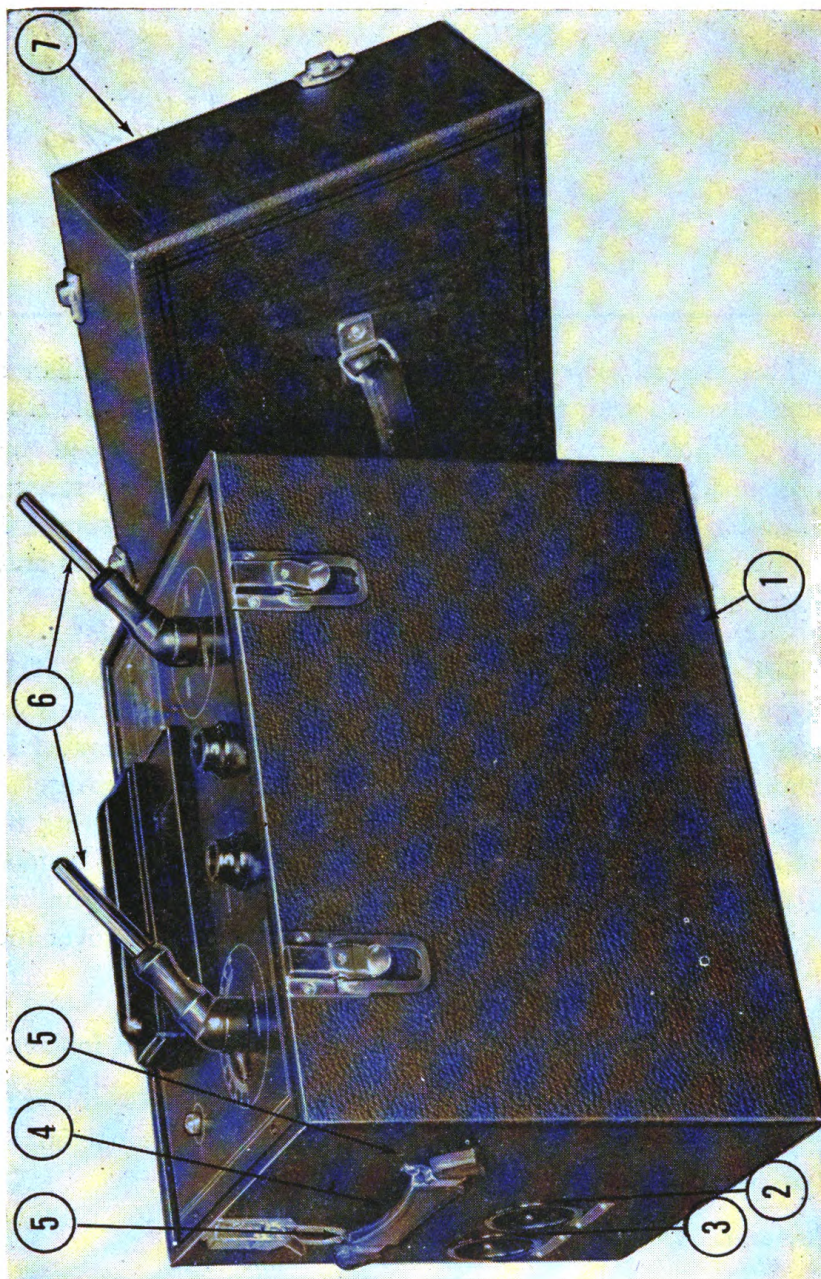
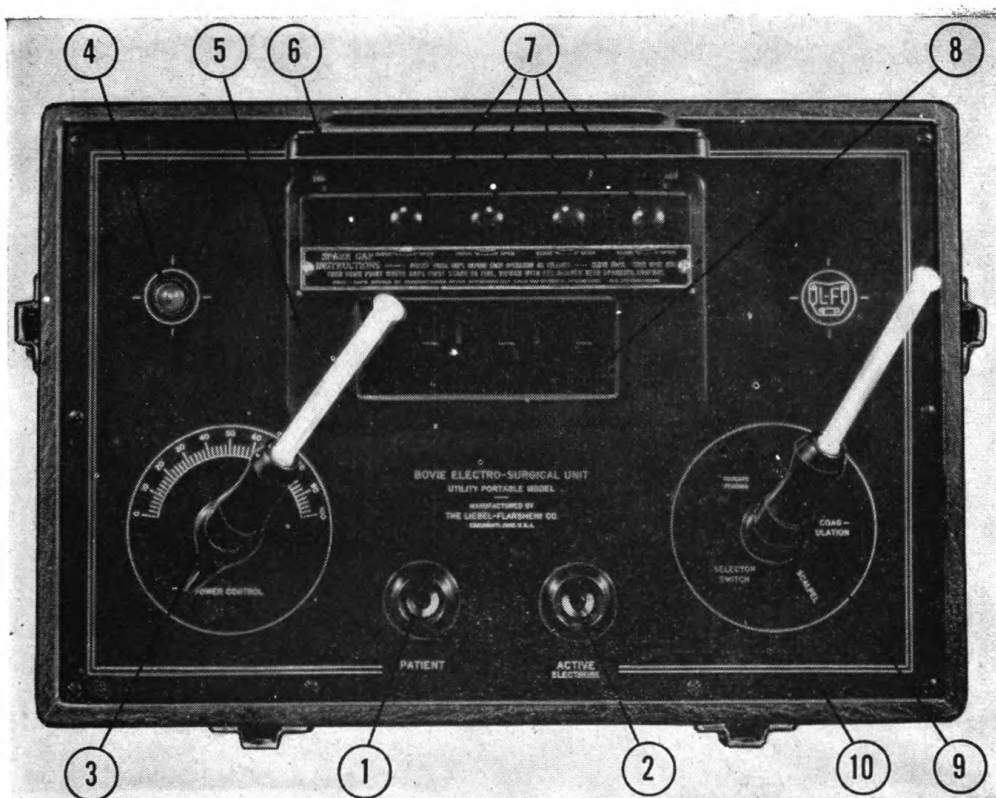
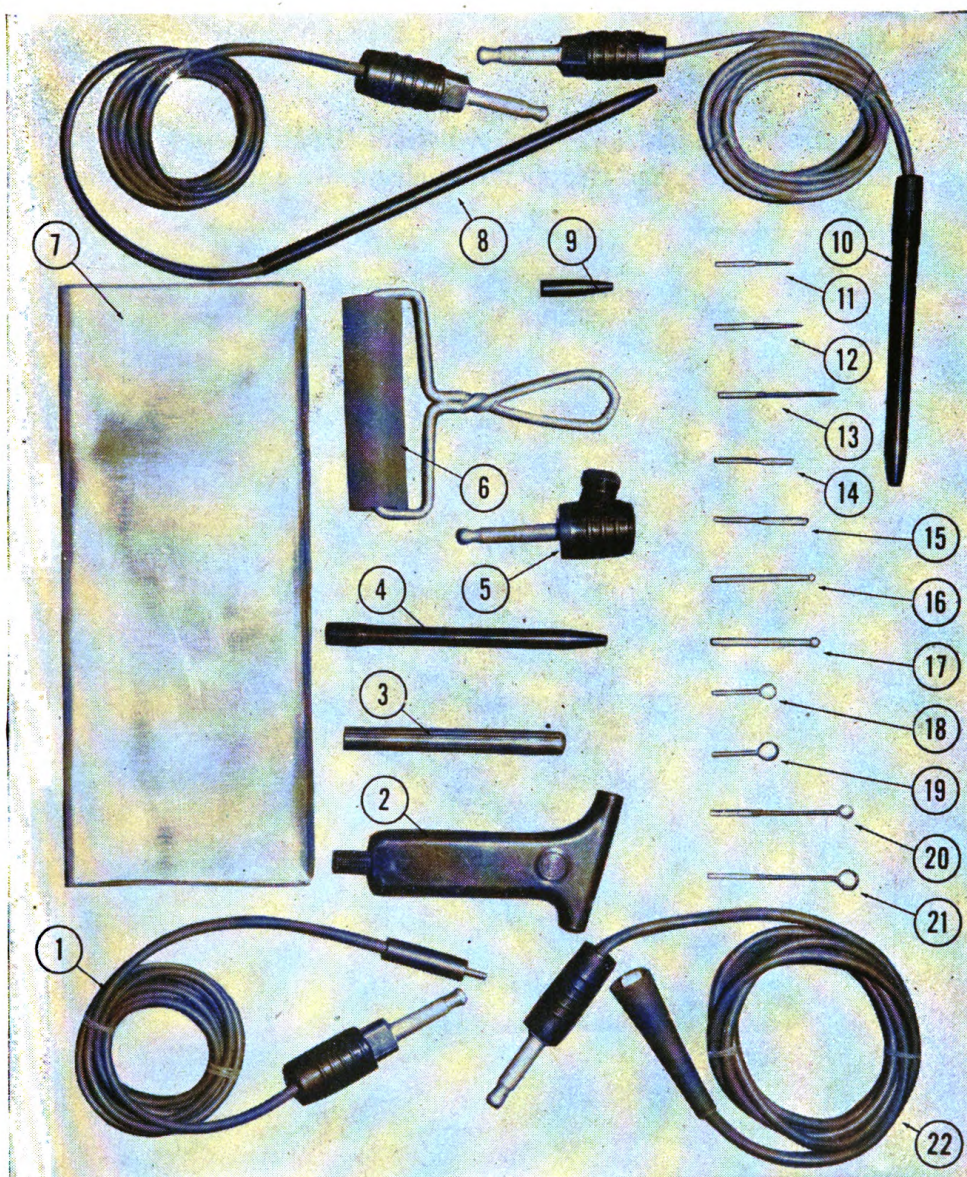
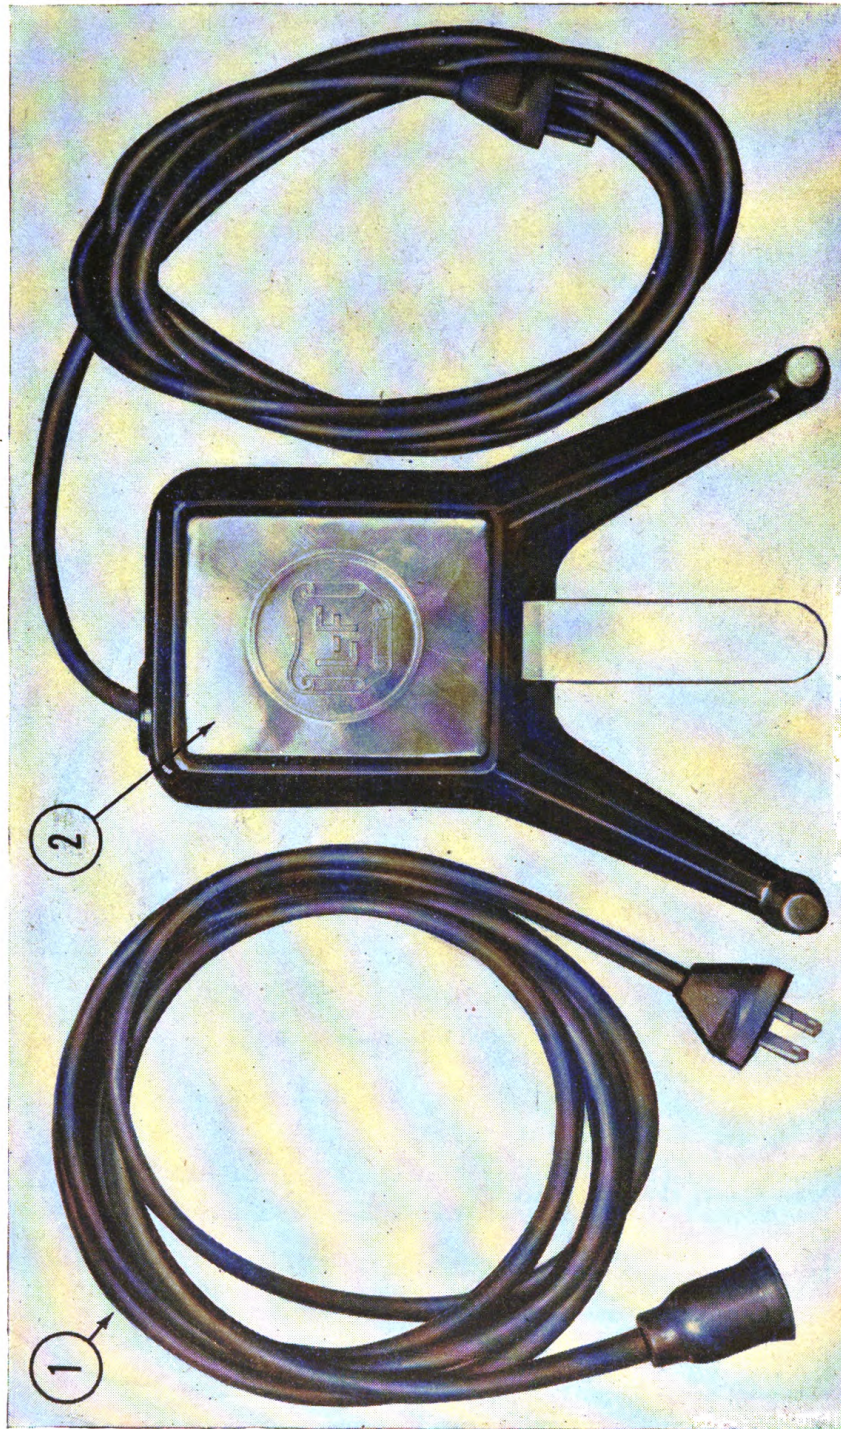

Figure 1. *Electro-Surgical Unit, Portable.*
Figure 2. Electro-Surgical Unit, Portable, top view.
Figure 4. Accessories.
Figure 5. Foot switch and supply cord.
1. SCOPE. This manual is published for the information and guidance of all personnel charged with the operation and maintenance of Electro-Surgical Unit, Portable, Medical Department No. 36703 (fig. 1) in the field. This manual is concerned chiefly with assembling, operation, maintenance, and packing of the unit. There is appended a standard nomenclature list of parts. Illustrations show the component parts and accessories described in the text.
2. DESCRIPTION. The Electro-Surgical Unit, Portable, item No. 36703, a standard type electrical surgical unit with two high-frequency oscillating currents combined in a single housing. One current generated is a cutting current, the other is a highly damped wave form for coagulation. A single selector switch permits instant change from cutting to coagulating current without release of the electrode in hand. A foot switch, 3R01656 (fig. 5), completes the control system. The unit is mounted in a compact, portable case with a compartment in the cover for accessories.
4. ASSEMBLIES. The Electro-Surgical Unit, Portable, consists of the unit completely inclosed in the carrying case (figs. 1, 2, and 3) and the accessories (figs. 3, 4, and 5) inclosed in the cover.
a. The unit includes the carrying case, complete with handles and hasps, 3R01704 (fig. 1), the various controls, and spark gap assembly, 3R01652 (figs. 3 and 6).
b. The accessories include the foot switch, 3R01656 (fig. 5), the supply cord, 3R01646 (fig. 5), and the operation electrodes and handles (fig. 4).
b. Connect supply cable, 3R01646 (fig. 5), and foot switch, 3R01656 (fig. 5), to plugs on side of case (fig. 1). Spark gap adjustment should be made at this point before other accessories are assembled. (See par. 8.)
c. Connect indifferent electrode, 3R01644 (fig. 4), to the terminal marked "Patient", using the cord with clip on one end and round plug on the other, 3R01618 (fig. 4). The clip is fastened onto the metal indifferent plate, 3R01644 (fig. 4).
d. When used with aseptic surgery the various parts that require touching or handling during operation should be sterilized before they are connected. These parts include the handles, 3R01604 (fig. 1), the chuck handle and cord and the required operating electrodes (fig. 4). (See par. 10).
e. Insert sterilizable handles, 3R01604 (fig. 4), into handle holders (fig. 1). Turn handle two or three turns clockwise to lock in place.
f. Insert operating electrode in chuck handle (fig. 4) by unscrewing to release chuck, inserting the electrode and then tightening chuck carefully.
g. Connect square terminal plug on chuck handle (fig. 4) to the terminal marked "Active Electrode" (fig. 2).
a. Disconnect supply cable, 3R01646 (fig. 5) and foot switch, 3R01656 (fig. 5).
8. ADJUSTING SPARK GAPS. a. Firing of the gaps may be observed through the glass window, 3R01694 (fig. 2). Immediately above each gap is its adjustment knob, 3R01650 (fig. 2). Turning the knob clockwise closes the gap; counterclockwise opens the gap. As the quality of the current is dependent on spark gap adjustment, it is essential that this operation be accurately and properly performed.
b. First move selector switch (fig. 2) to either the "Scalpel" or "Coagulation" position. Step on foot switch, 3R01656 (fig. 5) to start current flow through gaps. Then look at the gaps through observation window, 3R01694 (fig. 2). If any of the gaps are not firing, turn the proper adjusting knob, 3R01650 (figs. 2 and 6) counterclockwise to open the gaps slightly until all start to fire. It is essential that all gaps be firing prior to adjustment.
(2) When not in use, the chuck handle and active electrode should be placed on a sterilizable instrument rack because, if laid on top of the patient, a burn may result if the foot switch, 3R01656 (fig. 5) is depressed.